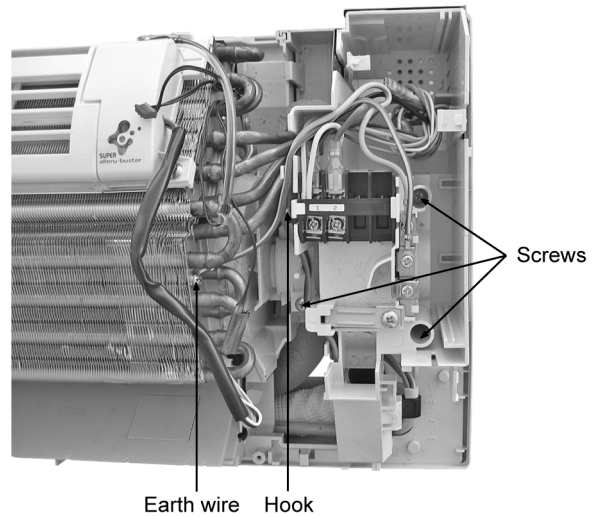

Fig. 6
- Remove the earth wire from the evaporator. (Fig. 6)
- Remove 2 screws on the right and 1 screw at the left side of control board. (Fig. 6)
- Then pull out the control board from the unit. (Fig. 6)